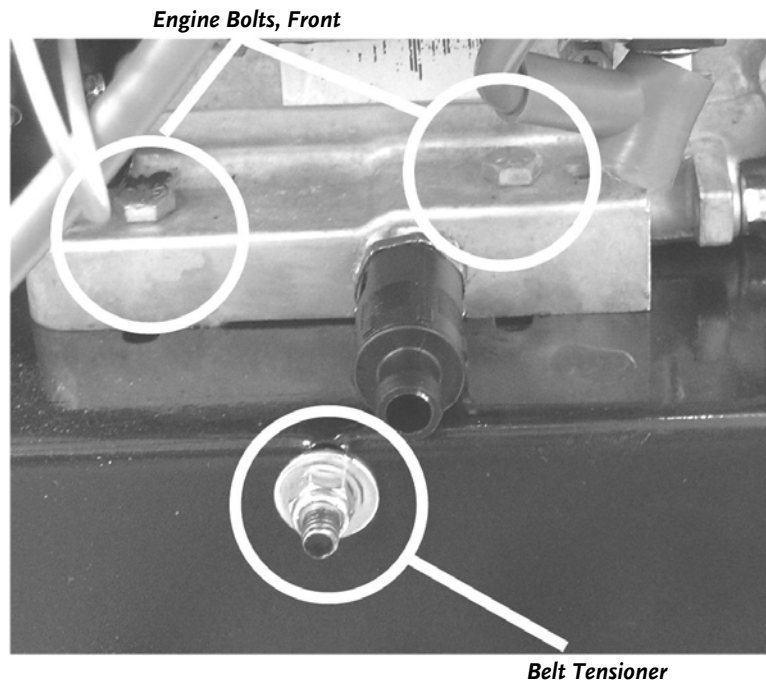
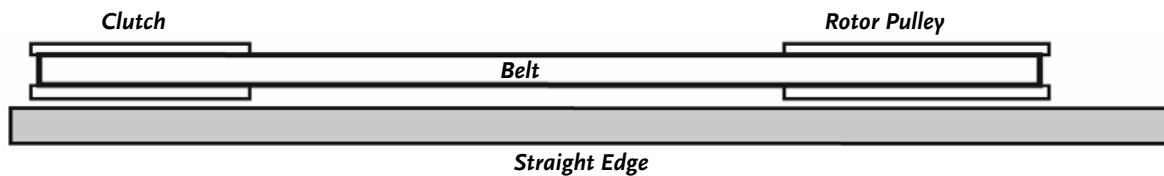
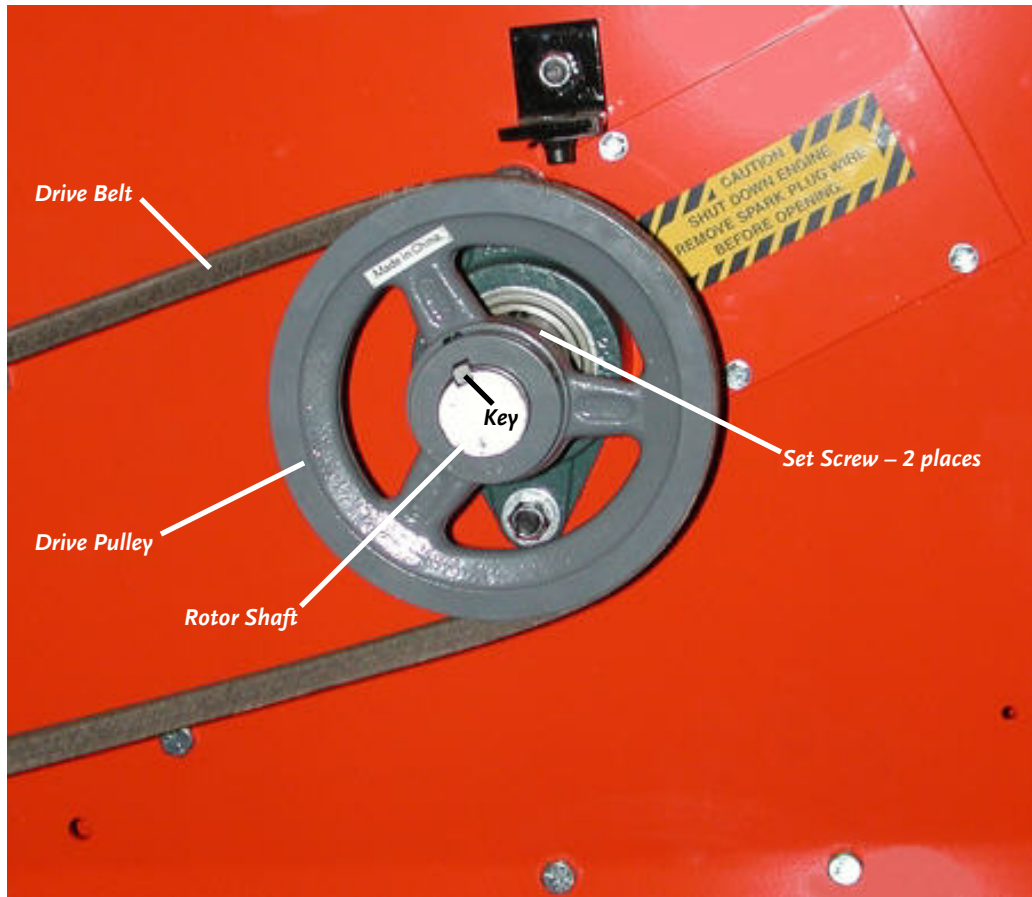

Figure 9
Figure 10
Figure 11
2. Loosen the four (4) Engine Bolts (2 in the Front and 2 in the Rear) using two (2) 1/2" Wrenches, one (1) on the Bolt and one (1) on the Nut underneath (**Figure 9** on page 29).
3. Tighten or loosen the nut on the Belt Tensioner (**Figure 9** on page 29) using a 1/2" Wrench until you have the correct tension as shown in **Figure 8**.
4. Retighten the four (4) Engine Bolts.
5. Check the alignment of the Clutch with the Drive Pulley by placing a straightedge across both faces as shown in **Figure 10** on page 29. If adjustment is necessary, correct the alignment as follows:
- a) Remove the two (2) Set Screws in the Drive Pulley Hub with a 5/32" Allen Wrench (**Figure 11** on page 30) and set them aside.
- b) Using a straightedge, align the Clutch and Drive Pulley as shown in **Figure 10** by moving the Drive Pulley in or out on the Rotor Shaft (**Figure 11** on page 30). **Do not make the adjustment by moving the Clutch on the Engine Shaft.**
NOTE: After you perform the adjustment, make sure that the Key remained in the Rotor Shaft and flush with the end surface of the Shaft (Figure 11 on page 30).
- d) Tighten the Set Screws while maintaining the alignment of the Clutch and Rotor Pulley (**Figure 11**).